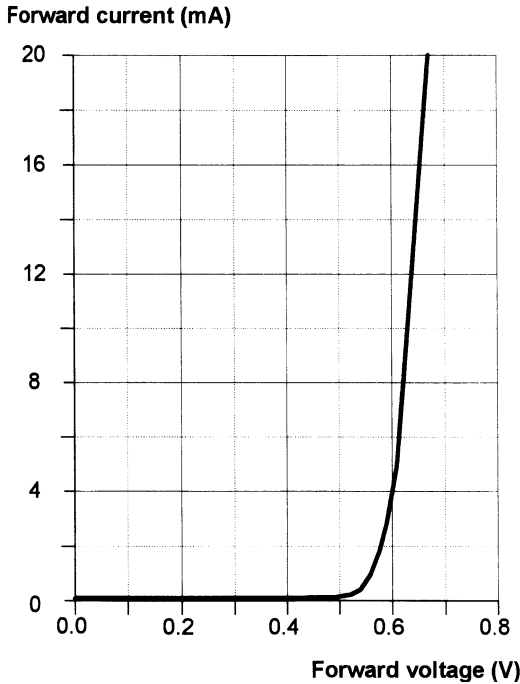

Figure 5.35
- 5.1 Figure 5.35 shows the characteristics of a diode. What type of material is used in this diode? Give a reason for your answer.
- 5.2 Use the characteristic shown in Fig. 5.35 to determine the resistance of the diode when (a) $V_F = 0.65\text{ V}$ and (b) $I_F = 4\text{ mA}$.